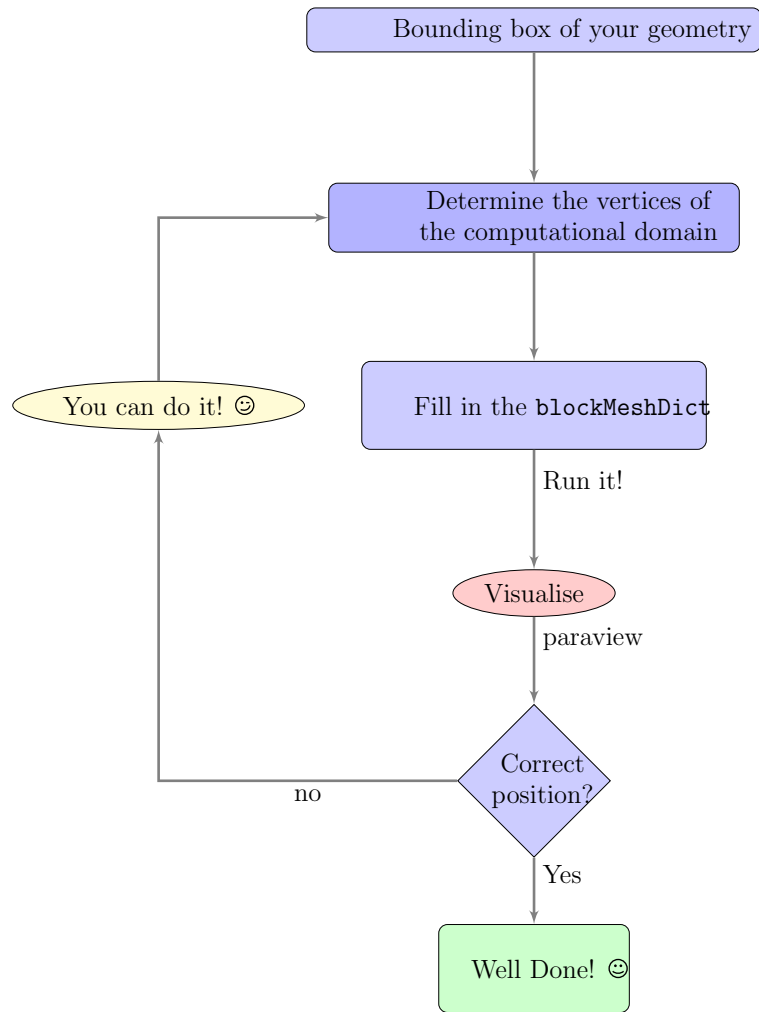

Figure 1.17: Ways to create the computational domain.
7. Does the geometry lies in the correct position in the computational domain? If yes then tick this box. Otherwise, follow figure 1.17.